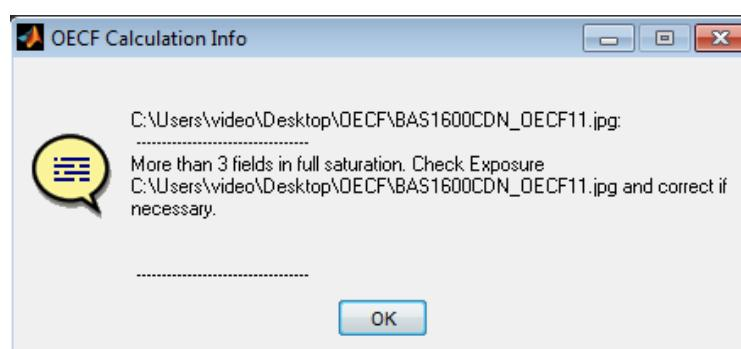

Figure 48. Screenshot of More Than Three Fields in Saturation Pop-up
- a. If an error message stating “**More than 3 fields in full saturation. Check Exposure**” appears (Figure 48), reduce the Test Chart Illumination by reducing the voltage and performing steps in Sections 7.1.2.5 and 7.1.2.6 until the analysis error message no longer appears.